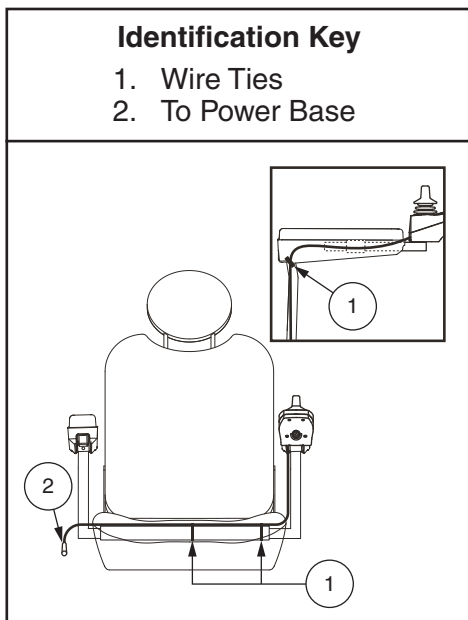

Figure 8. Controller Harness Routing on a Contour Seat
6. Secure the controller harness to the armrest receiver with wire ties. **See figure 8.**